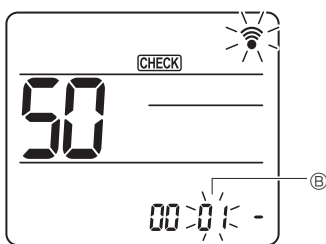

Fig. 6-18
- ③ Select a mode
Press the [DOWN] button to set Mode number ②. (Fig. 6-18)